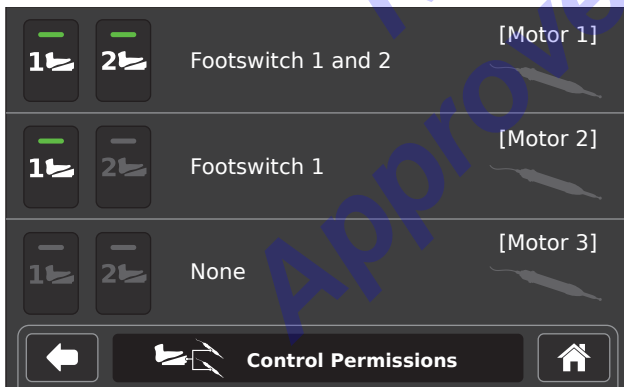

Figure 15 – Control Permissions Screen
2. For each connected motor, set control permissions as necessary (Figure 15).